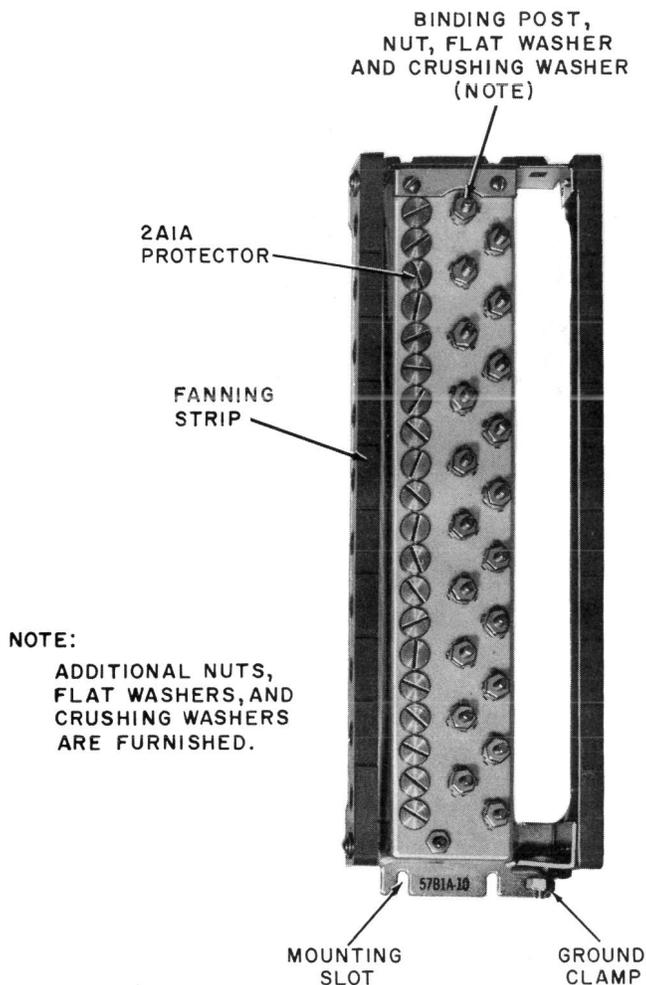

Fig. 17—57B1A-10 (MD) Connecting Block
3.22 The 57B1A-type (MD) connecting blocks consist of binding posts and 2A1A protector units in injection-molded blocks (Fig. 17). The blocks are equipped with insulation-crushing hardware, fanning strips, and a ground clamp. The ground clamp permits the connection of a station protector ground. The connecting block should be grounded with a wire no smaller than a No. 6 ground wire (Table B). The connecting blocks were made in 10-, 16-, 25-, and 50-pair sizes (Table C). The 57B1A-type connecting block may be installed in G-type terminal boxes, 1A1 or H202 cable terminal sections (see Section 461-603-100).